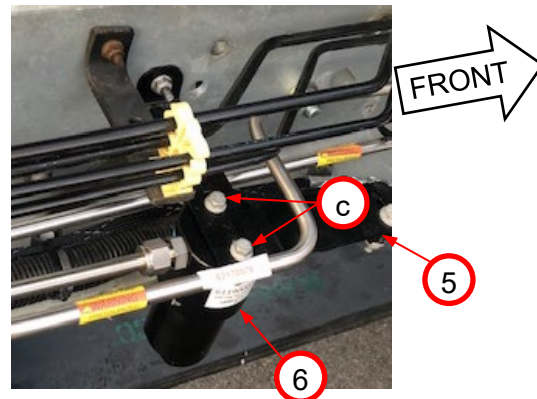

Figure 4:
8. Use a wrench to remove two bolts (c) securing LP filter assembly (6) to LP filter bracket (5). *Figure 4*
3. Install two bolts securing LP filter assembly (6) to LP filter bracket (5). *Figure 4*